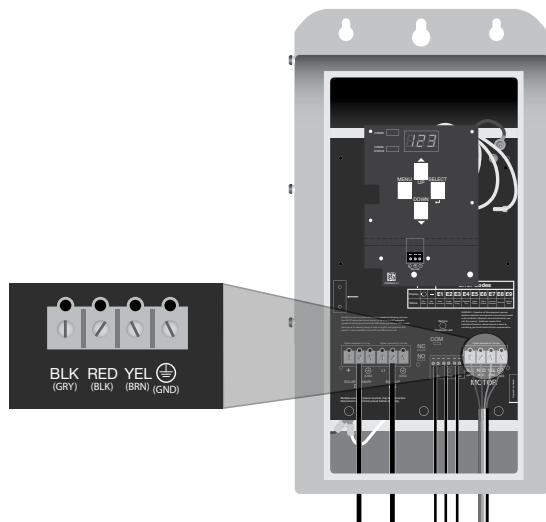

Figure 8: Motor Wiring Connection
1. Connect the cables from the Pump/Motor Assembly to the Terminal Block labeled "MOTOR" and marked BLK, RED, YEL, and GND (Figure 8). (Torque specification: 15 in-lbs/ 1.7 N-m).